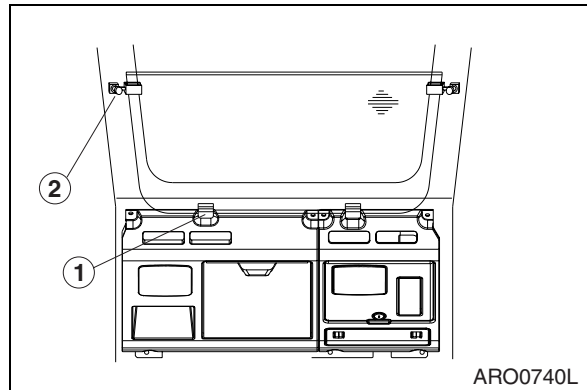

Figure 99
2. Set bottom window in rubber holders (1, Figure 99) behind operator's seat. Secure window to cab with left and right knobs (2).